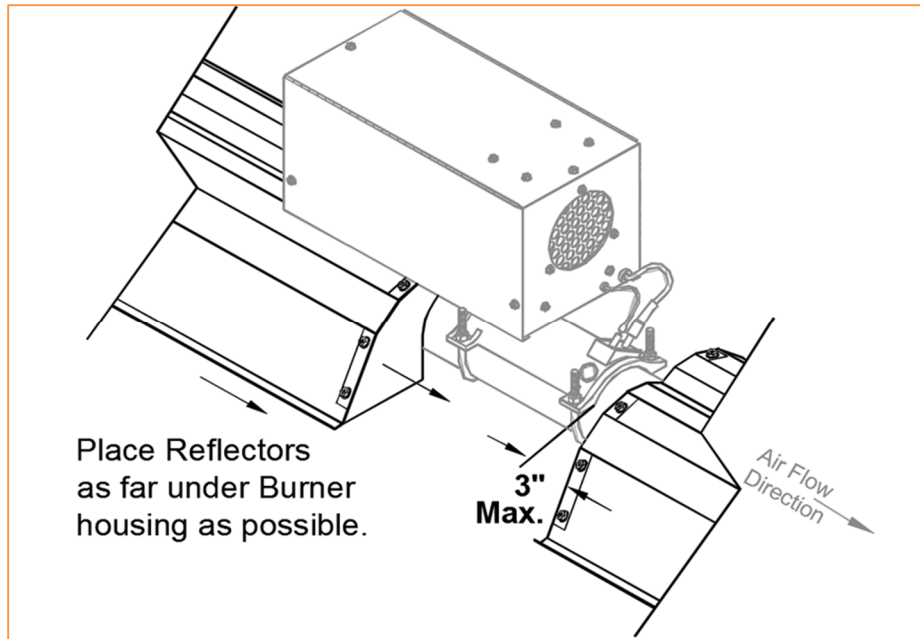

Figure 22: Standard Reflector and Burner Relative Positioning
6. When approaching successive Burner locations, ensure the Reflector is as far under the Burner (close to the Burner mounting hole) as possible, as shown in Figure 22. *Install an End Cap using #8 x 3/8" screws on the open end of the Reflector which will be under the Burner at the end of the Reflector run.